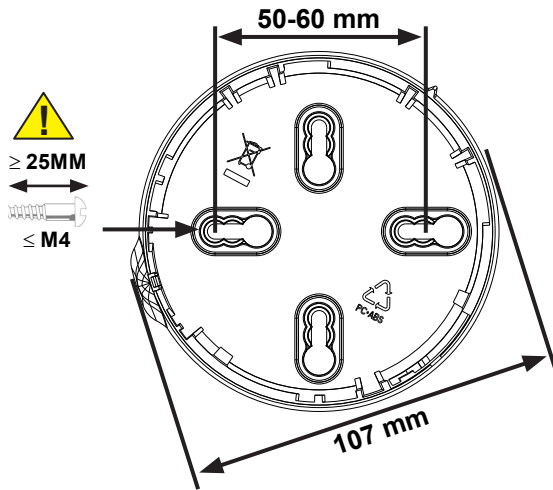

Figure 2: Attaching Sounder to Base
Figure 2 details attaching the sounder to the base.
- 3) Fit the sounder in its base (as shown in **Figure 2**).